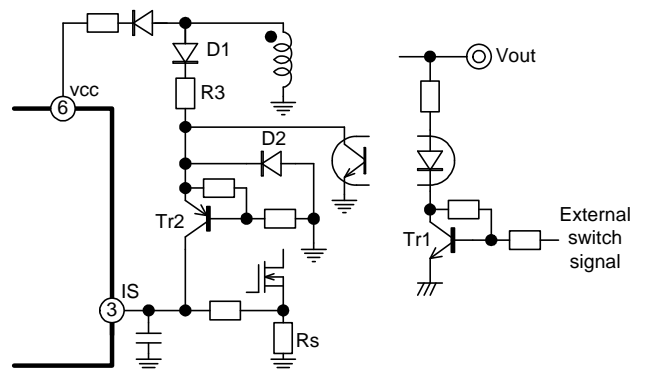

Fig.21 Power limiting circuit and waveform at standby detection
As shown in Fig. 21, a diode, current limiting resistor, transistor switch, optocoupler, etc. are added between the auxiliary winding and the IS pin.
Diodes D1 and D2 in Fig. 21 can share parts with the diode connected between the VCC pin and the auxiliary winding. While the MOSFET is turned-off, the voltage of auxiliary windings is depended on output voltage on the secondary side and ratio of the number of turns of secondary windings and number of turns of auxiliary windings. As the pull-up level of the IS pin voltage, determine the value of R3 so that the IS pin voltage reaches IS pin standby detection voltage 0.55 V, or higher within 2 μ s after the turn OFF. In this case, if R_{is} is small, the IS pin voltage may not increase. Therefore, adjust the constant of the filter, following the description in (2) "Burst operation point adjustment 1 under light load."